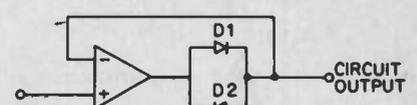
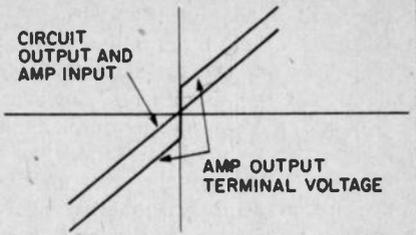
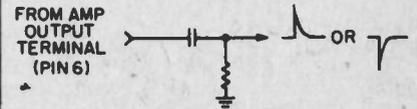

Fig. 9. A useless circuit?
Fig. 10. Basis for a "zero crossing" detector is shown in graph form.
Fig. 11. Differentiator bi-polar output.
first glance, might appear to be useless is shown in Fig. 9. According to the previous analysis of how the amplifier overcomes the diode offset voltage, the two diodes (back-to-back in this circuit) would appear to be a plain piece of wire! With a positive DC output, D1 will conduct and the voltage will appear in its entirety at the output terminal of the circuit. Likewise, a negative DC voltage will be passed through D2 to the output terminal unabated. However, you can see that the amplifier output voltage jumps suddenly at the zero crossing of the input voltage as shown in Fig. 10.
We have presented some problems, solutions, and simple experiments associated with the combined use of diodes and operational amplifiers. Some circuits such as the AC meter can stand alone and be useful while the circuit of Fig. 9 and Fig. 11 can be used to gather information in larger systems such as automatic checkout devices or industrial process control. We hope it has added something more to your knowledge of the broad electronic spectrum.
Fig. 9. The simplest crystal oscillator circuit (A) has no tuned circuits. To change frequency it is only necessary to change crystals, although a small variable capacitor across the crystal will cause some small frequency change. Miller oscillator (B) is nearly as simple as Pierce type shown in (A). Tuned circuit can pick out fundamental frequency or harmonics. Pierce electron-coupled oscillator (C) derives its feedback from the screen circuit, eliminating need for a buffer amplifier in most cases. Colpitts oscillator (D) gets its feedback from cathode circuit. Variable capacitor in the grid-cathode circuit can trim frequency.
**Using Quartz Crystals.** After all the discussion of crystal theory, it's time to examine some typical circuits. While dozens of special crystal circuits have been developed for special applications, a sampling will suffice for discussion. Fig. 9 shows four typical vacuum tube
**As a Clock.** To use a crystal as the timing element of a clock, an oscillator identical to those shown in Figs. 9 and 10 is the starting point. Crystal frequen-